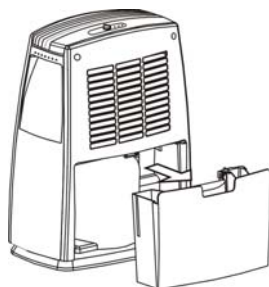

Fig 01
- Remove the water tank as Fig 01. and empty it.